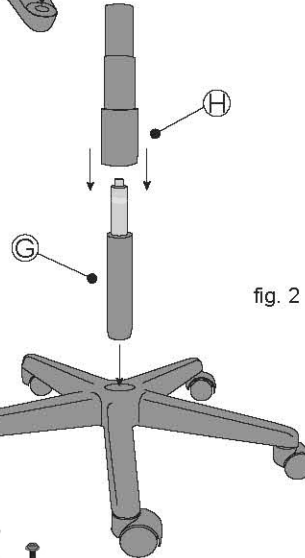

fig. 2
2. Put Gas Lift **G** in the Base unit. Then slide the Cover **H** over the top. See fig. 2.
2. Put Gas Lift **G** in the Base unit. Then slide Cover **H** over the unit. See fig. 2.